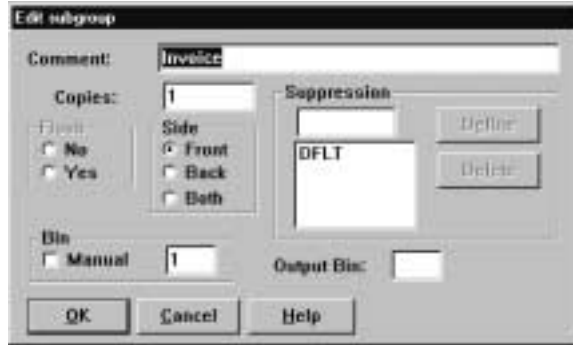

Figure 24. Subgroup specifying front side only
3. You should have four subgroups now. Right click on the Invoice subgroup. For the **Side** option select the **Front** radio button. The window should look like Figure 24 on page 30. Click on **OK**.